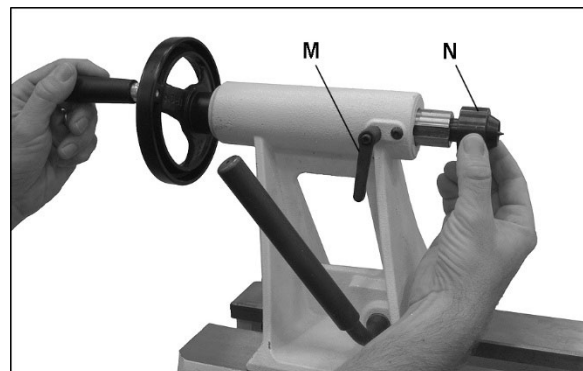

Figure 16
3. Always tighten the quill locking handle (M, Figure 16), once the live center has been properly positioned in the workpiece. Make sure the keyway (N, Figure 16) in the quill is aligned with the locking handle.
5. Loosen quill lock handle (M, Figure 16).